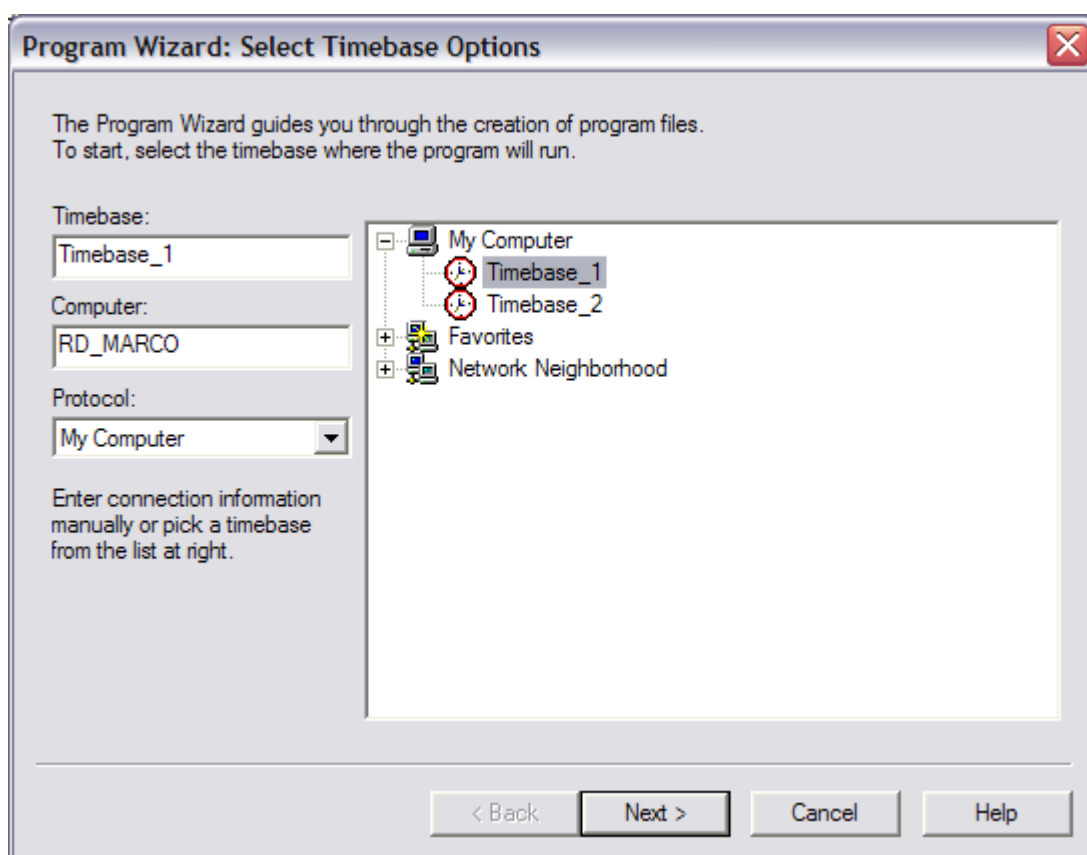

FIGURE 4-10: Program wizard – selection of the timebase
1. Start the wizard and select Timebase_1 to create a program that will use the hardware in Timebase_1 (FIGURE 4-10). Similarly Timebase_2 should be selected to make a program for the hardware in Timebase_2. The manual will describe the program for Timebase_1 and indicate where changes apply when Timebase_2 is used.